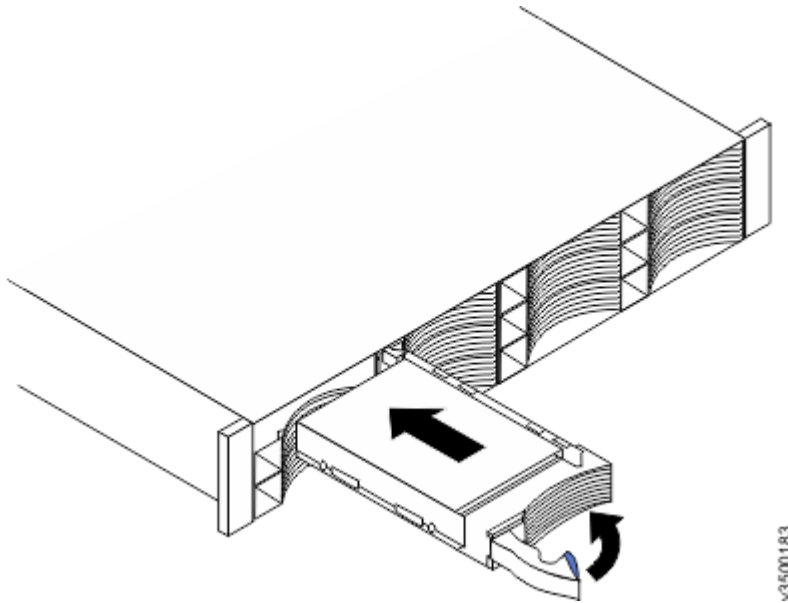

Figure 124. Installing and locking a 3.5-inch drive into its slot
13. Align the drive assembly with the guide rails in the bay (see Figure 124 on page 162).